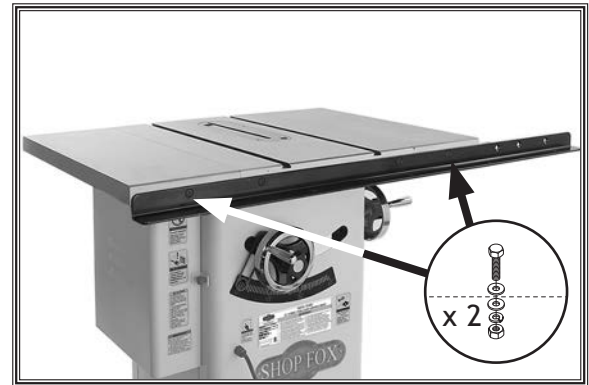

Figure 22. Front rail attached to extension wings.
10. Attach front rail to extension wings with (2) M10-1.5 x 35 hex bolts, (4) 10mm flat washers, (2) 10mm lock washers, and (2) M10-1.5 hex nuts, as shown in **Figure 22**. Finger tighten fasteners for now.